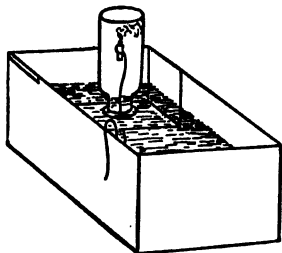

Fig. 18.
2. Put the wire of a combustion cup through the orifice in the shelf (Fig. 18) so as to have the bowl of the cup reach half-way to the top of an inverted rec. placed over it, and bend the end of the wire over the side of the p.t. to fasten it, and have it easily removable. The mouth of the rec. when inverted over the cup will be under water, and a portion of air confined in the rec.